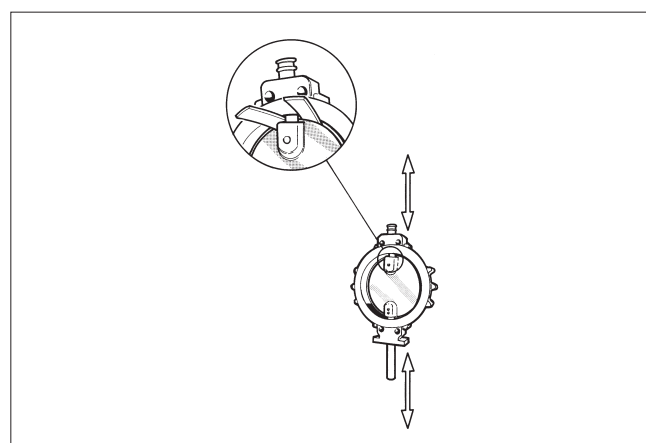

Fig. 15 Protecting the disc during disassembly and assembly
- Detach the screws (26) and the blind flange (10) and remove the gasket (18).
- Place rubber strips or other protection between the disc edge and the body and remove the shafts, Fig. 15.
- Place the disc horizontally on a surface so that the flat side of the disc lays against the surface. Lift the body around the disc so that the shaft bores are aligned with the bores in the disc. Protect the disc (see Fig. 15).